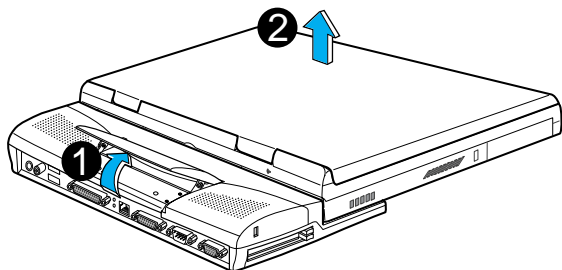

Figure 7. Disconnecting the Mini Dock
2. Pull the “open latch” on the Mini Dock up.(Figure 7)